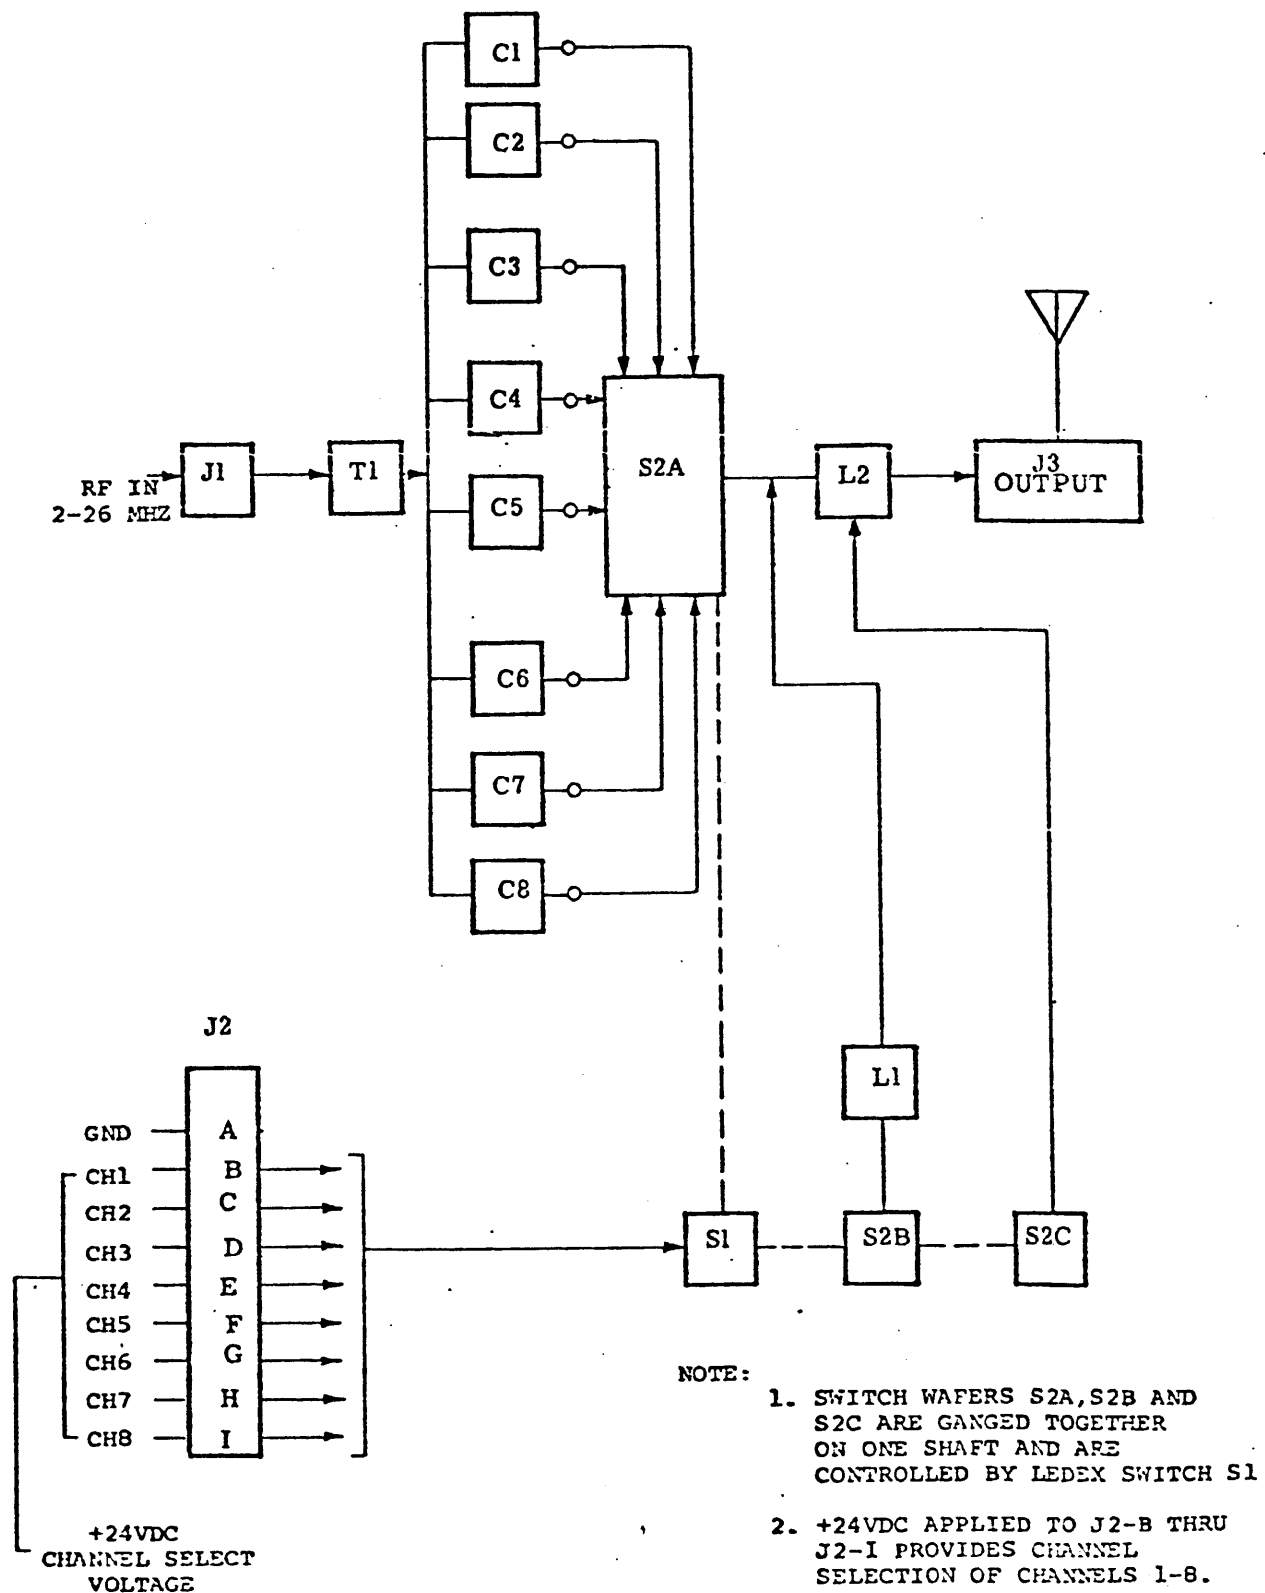

Figure 3-3. Functional Block Diagram
2. Select the desired channel (channel 1 thru 8) by applying +24 vdc to the appropriate pins on remote jack J2 (refer to figure 3-3) or if the TMC model TMA-350 transmitter is incorporated as part of the system, set the CHANNEL switch on the TMA-350, to the desired channel.
3. Select the channel to be adjusted. (Channel selections are made by setting the TMA-350 CHANNEL switch to the desired channel or by the application of +24 vdc to the appropriate pin on remote jack J2. Refer to figure 3-3 for the pin number designation for each channel).